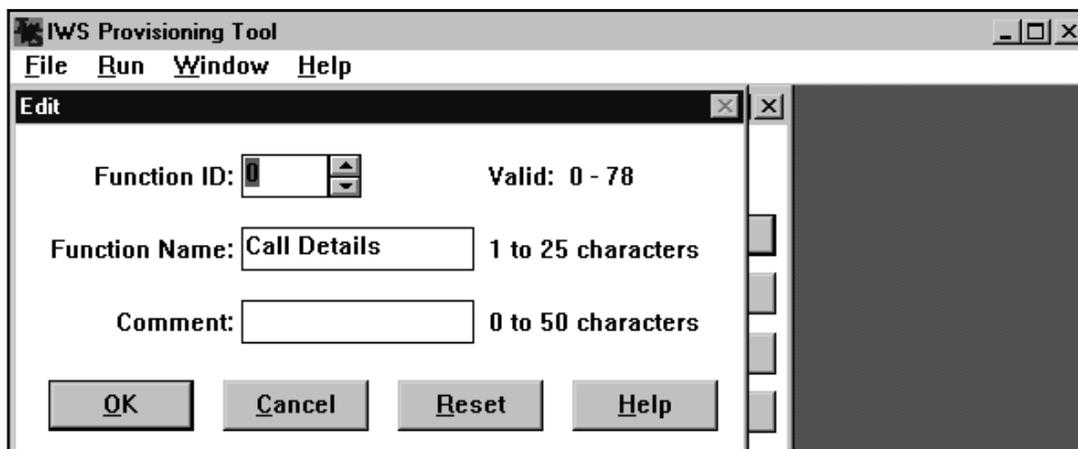

FIGURE 119. Example of Edit dialog box for XFNCTS table file
5. To change data, select the function name to be changed, then select Edit. (See Figure 119.)